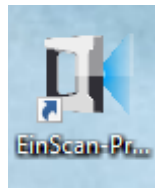

Figure 7: Desktop icon to launch the Program
6. Launch the EinScan Pro program located on the desktop (Figure 7).